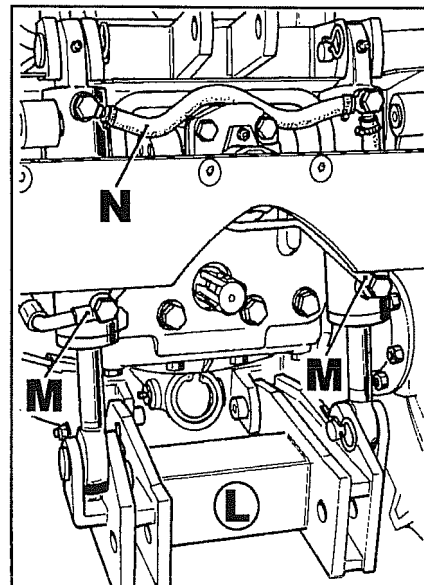

Fig. 18
- 18 Remove lift linkage mount **L** fig. 18.
- 19 Disconnect cylinder oil delivery and return hoses **M** and **N** fig. 18.